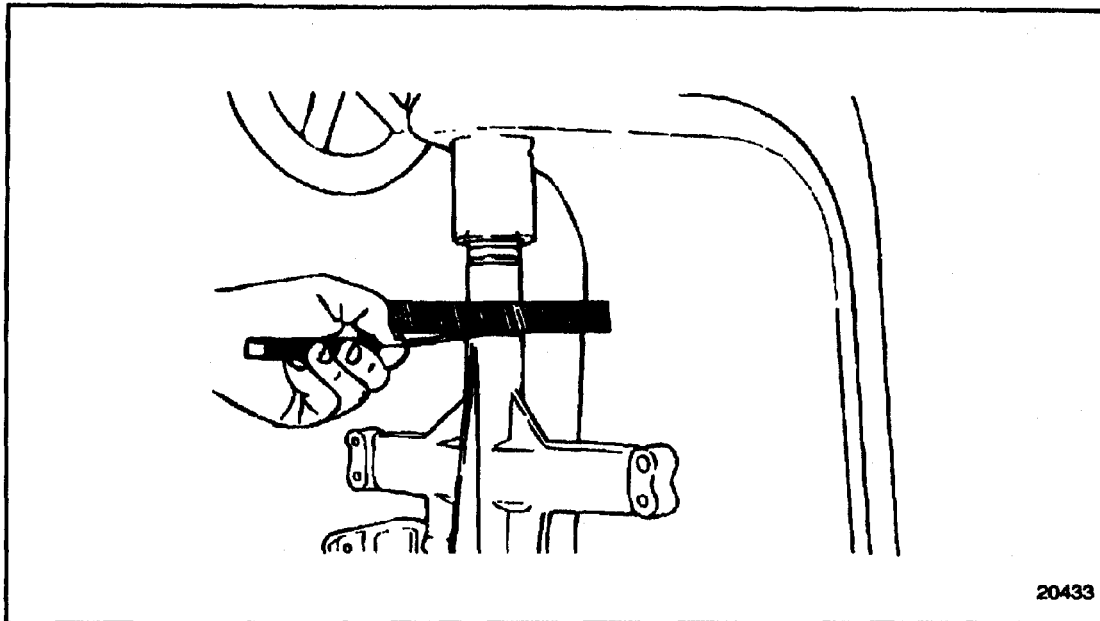

Figure 3-8 Oil Pump Drive Gear Installation (Pre-1991 Engines)
6. Press the drive shaft until a clearance of 0.38 mm (0.015 in.) is obtained between the inner face of the gear and the pump body. See Figure 3-8.